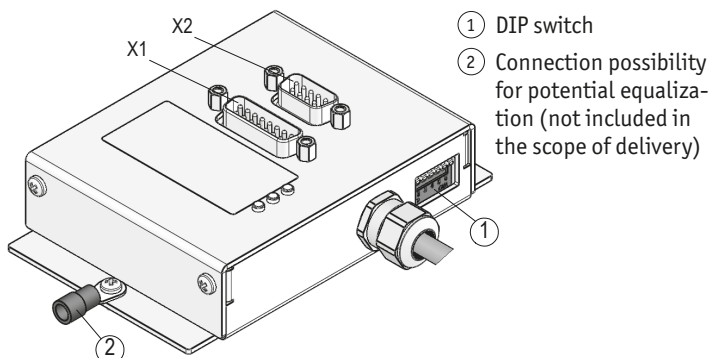

Fig. 8: Connections
Fasten the device on a flat locating surface via the two lateral bores (see Fig. 8 and fastening dimensions to be taken from the Data Sheet).
- ▶ During installation, it is particularly important to ensure that the defined air gap (Fig. 8) is maintained over the entire measuring distance between the belt and the sensor, regardless of whether the belt or the sensor is moved. The enclosed distance gauge is suitable for this purpose.
Additionally screw on the crimp-type cable socket or flat plug when mounting the translation module to the connection facility for potential equalization ② (see Fig. 8 and chapter 4.3).
- X1: 15 pole D-Sub plug pin (see Fig. 8)
- X2: 9 pole D-Sub plug pin (see Fig. 8)